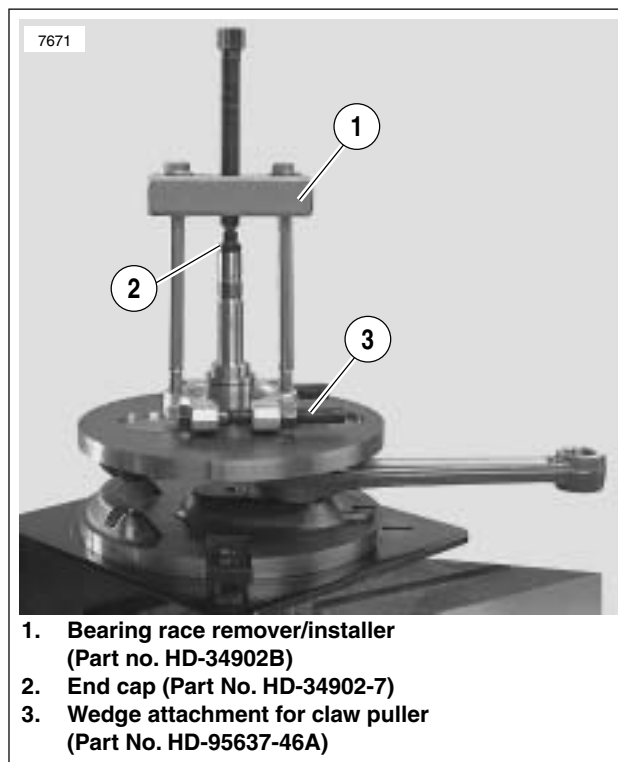

Figure 3-115. Pulling Pinion Shaft Inner Race
13. See Figure 3-115. To remove pinion shaft inner race, use WEDGE ATTACHMENT for CLAW PULLER (Part No. HD-95637-46A) with BEARING RACE REMOVER/INSTALLER (Part No. HD-34902B) and END CAP (Part No. HD-34902-7). Apply heat to race to aid removal. Four sizes of pinion bearings are available. Pinion bearing selection at the factory, during engine rebuild, or replacement of crankcase set or flywheel assembly is based on the largest measured outside diameter (OD) of the inner race and the smallest measured inside diameter (ID) of the outer race (crankcase bushing). A running clearance of 0.0002-0.0008 in. (0.0051-0.0203 mm) is established during crankcase set or flywheel assembly replacement and engine rebuild.